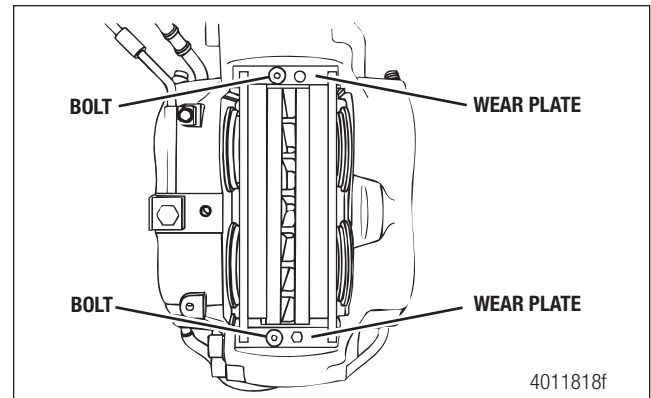

Figure 4.4
11. Clean and inspect the lining wear plates. Replace damaged or worn wear plates. Install wear plates and tighten to specification. Figure 4.4.